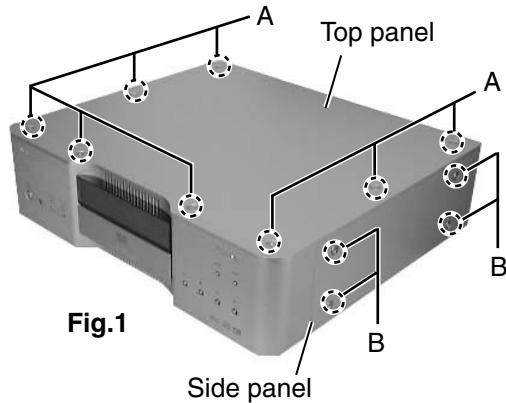

Fig.1
■ Removing the top panel(See Fig.1)
■ Removing the side panel(See Fig.1)
■ Removing the front panel assembly (See Fig.1~5)